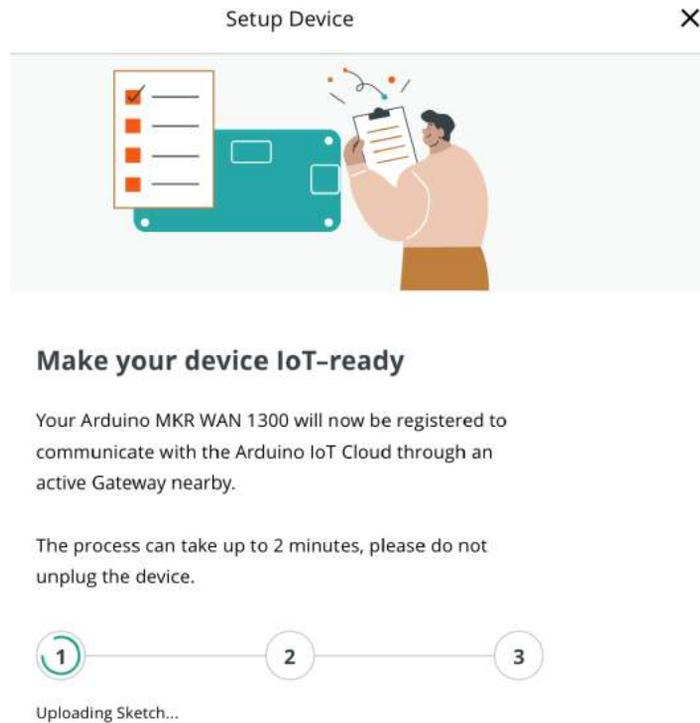

Figure 6.15 – MKR WAN 1300 configuration
7. Then, another popup will appear, as shown in *Figure 6.15*, which will prepare your device for the Arduino IoT Cloud.